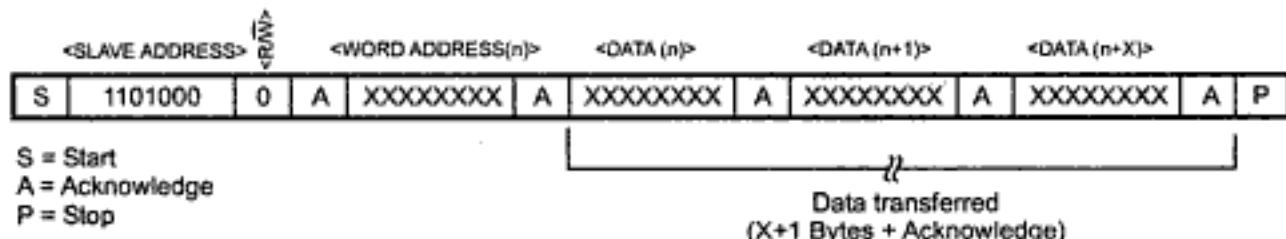

Fig. 15.15 Data write - slave receiver mode
- Slave receiver mode (DS1307 write mode)** : Serial data and clock are received through SDA and SCL. After each byte is received, an acknowledge bit is transmitted. START and STOP conditions are recognized as the beginning and end of a serial transfer. Address recognition is performed by hardware after reception of the slave address and direction bit as shown in Fig. 15.15. The address byte is the first byte received after the start condition is generated by the master. The address byte contains the 7-bit DS1307 address, which is 1101000, followed by the direction bit (R/active-low W) which for a write is a 0. After receiving and decoding the address byte, the DS1307 outputs an acknowledge on the SDA line. After the DS1307 acknowledges the slave address + write bit, the master transmits a register address to the DS1307. This will set the register pointer on the DS1307. The master will then begin transmitting each byte of data with the DS1307 acknowledging each byte received. The master will generate a stop condition to terminate the data write.